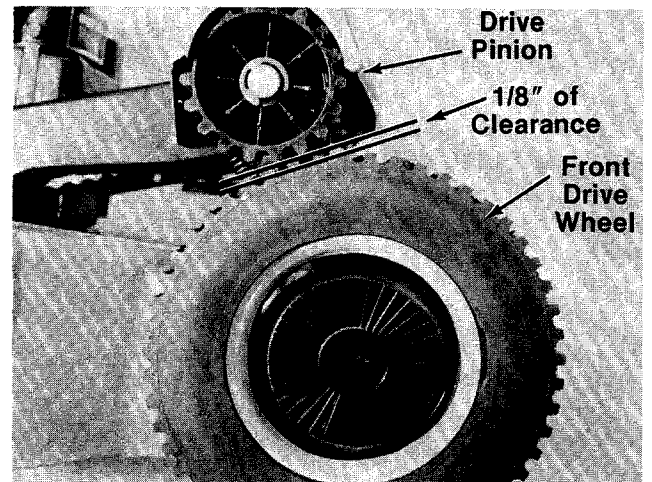

FIGURE 20.
1. Loosen (do not remove) two sems hex bolts. See figure 20.